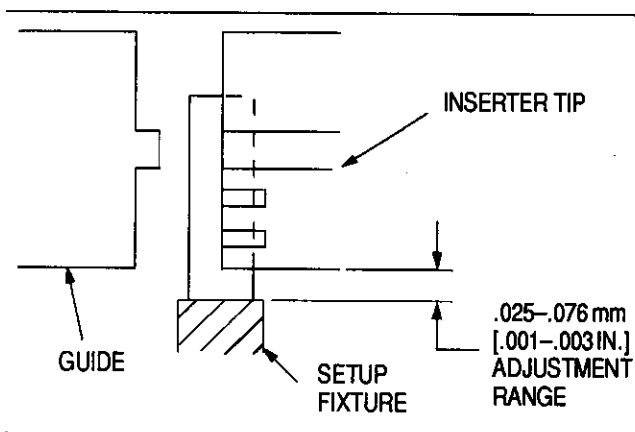

Figure 4
7. Turn the machine's height-adjustment wheel until the height is within the adjustment range, as shown in Figure 4. Turn the wheel **CLOCKWISE** to **RAISE** the mandrel (and connector) and **COUNTERCLOCKWISE** to **LOWER** the mandrel (and connector).
8. Verify that there is .025-.076 mm [.001-.003 in.] of clearance between the bottom of the inserter tip and the cutout portion of the setup fixture. See Figure 4.